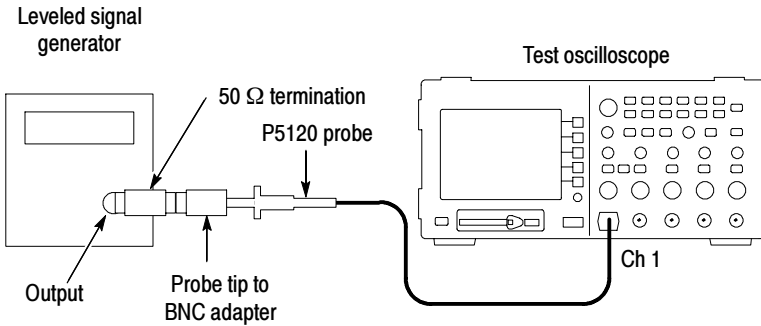

Figure 10: Bandwidth test setup
1. Connect the test setup as shown in Figure 10.